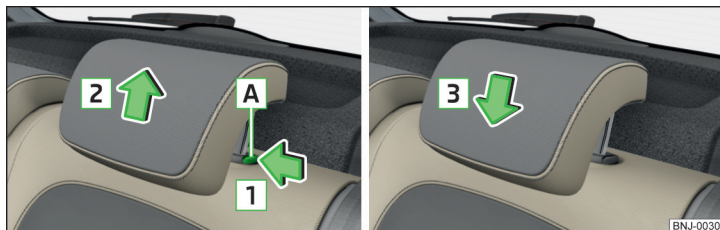

Fig. 60 Removing/installing the headrest
- Press locking button **A** in the direction of arrow **1** and pull out the head restraint in the direction of arrow **2** » Fig. 60.